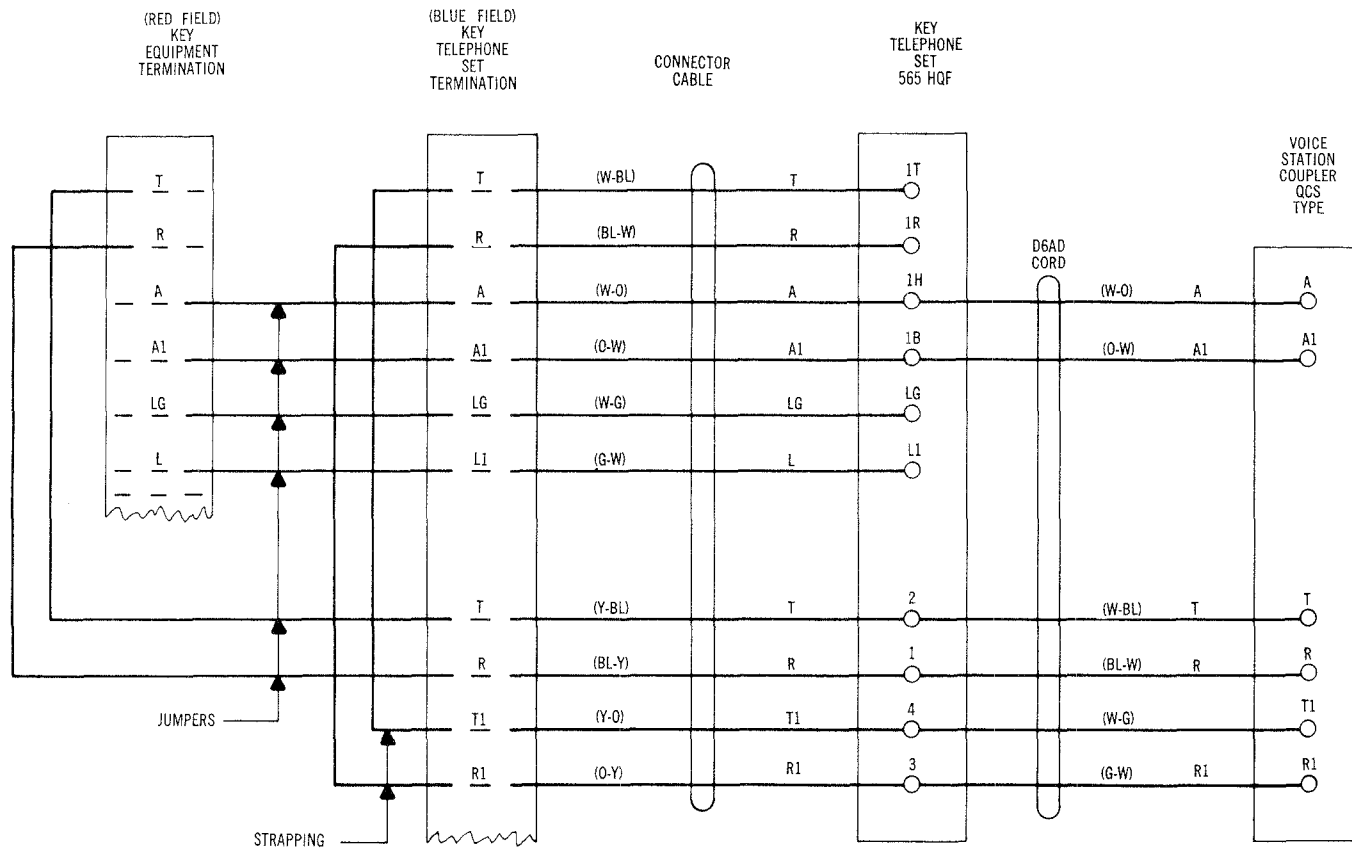

Fig. 6 - Voice Station Coupler
**3.10** On key systems where 6 button key type telephones are used and it is not practical to run a separate cable for the voice station coupler, install a 565 HQF key telephone set and connect as shown in Fig. 6.